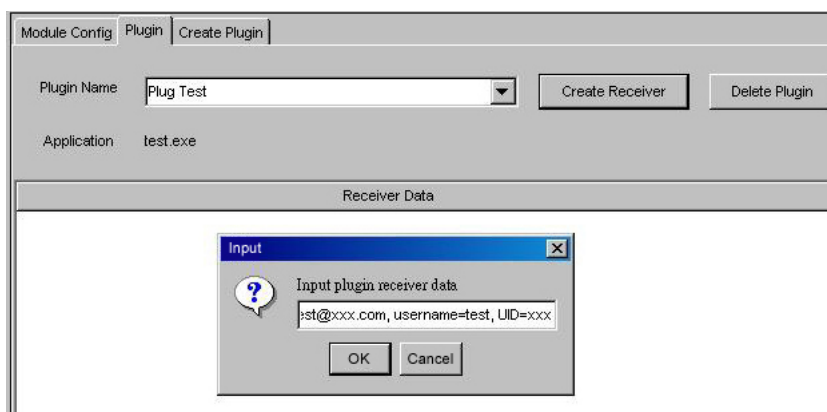

Fig. 4.21 Create Plug-in Receiver Profile
- Enter the configuration string to be read when the application program starts. (See *Figure 4.21*) A configuration argument may look like this: